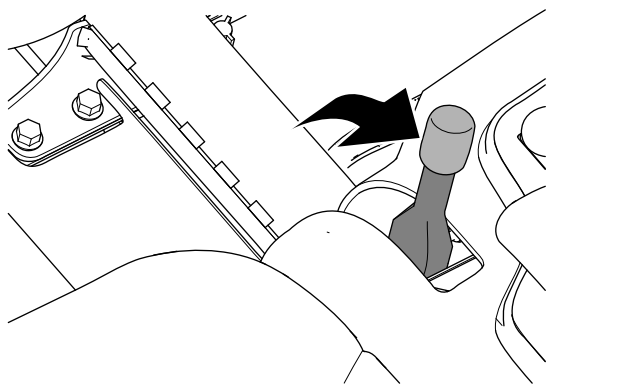

Figure 27
2. Engage the parking brake (Figure 27).